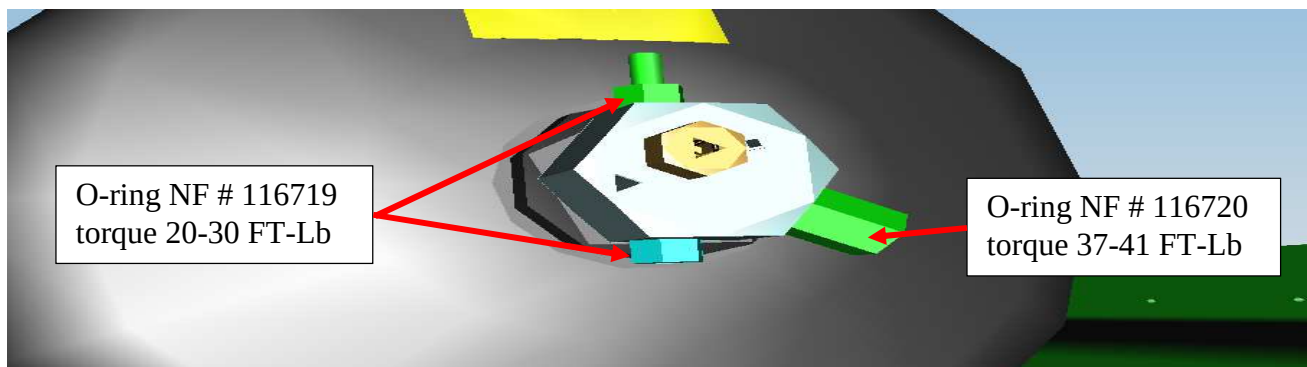

Figure 5: Adaptors
- f. Transfer the adaptors and plug from the old solenoid valve to the new solenoid valve using new O-rings and apply with NF # 400081 Parker Super O-Lube sparingly and torque as shown in Figure 5.